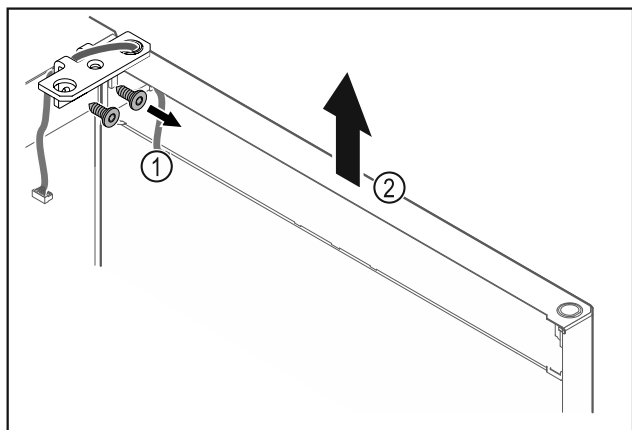

Fig. 16
- Unscrew the hinge Fig. 16 (1).
- Lift the door with the hinge straight up by Fig. 16 (2) roughly 200 mm and take it off.